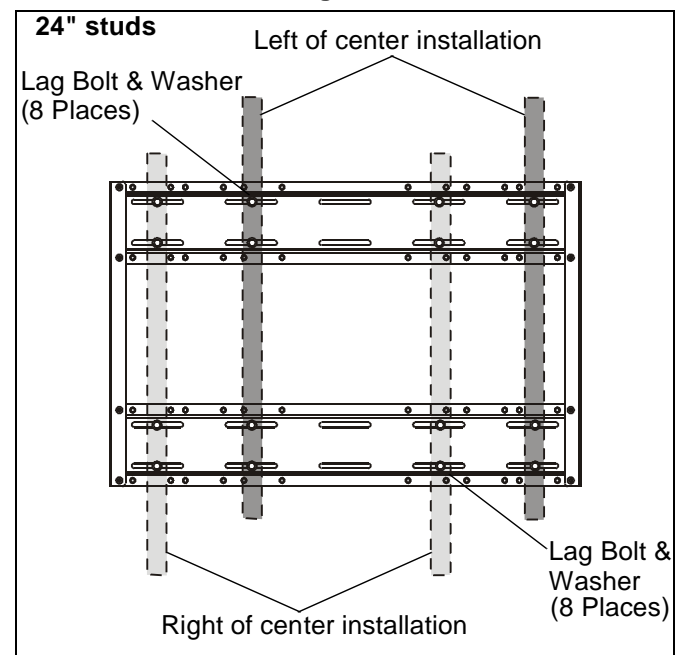

Figure 6
- 24" on center studs: The mount is offset to the left or right of center between two studs as shown. (See Figure 6)